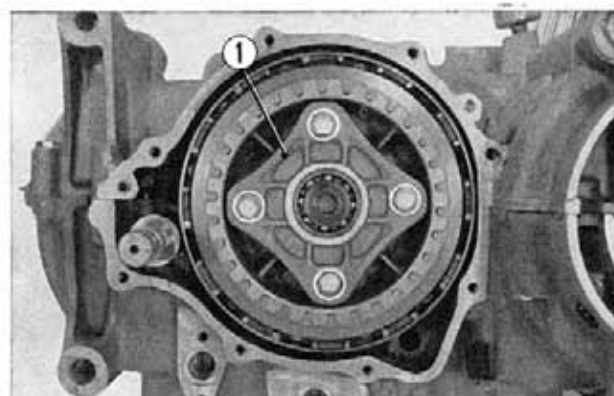

Fig. 4-3 ① Clutch lifter plate
2. Unscrew the four clutch lifter mounting bolts and remove the clutch lifter plate and spring. (Fig. 4-3)